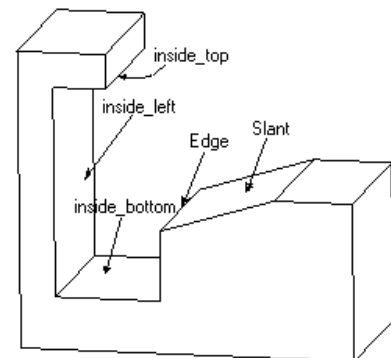

Figure 3.1
6. Repeat steps 1 - 6 for the "inside\_top", and the "inside\_bottom" faces as seen in figure 3.1